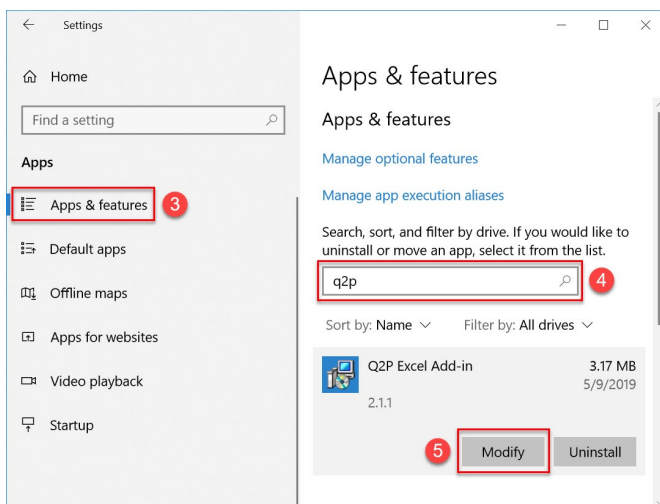

Figure 1.1 Windows “Apps & Features” menu.
3. In the next window that appears, make sure “**Apps & Features**” is selected (Figure 1.1).